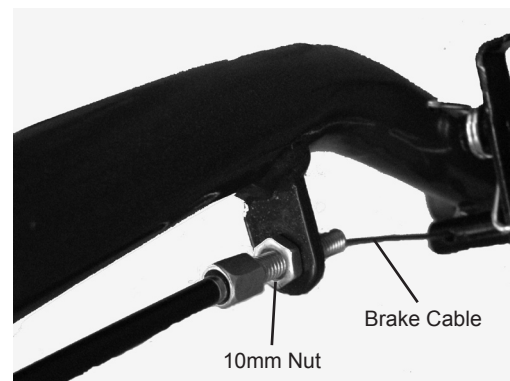

Figure 4
5. To lock the Wheels (38) in position, push down on Brake Handles until a "click" sound is heard.
8. To tighten the tension on the brake cable, use a wrench (not included) to turn the 10mm Nut under the Handle clockwise. See **Figure 4**, below.